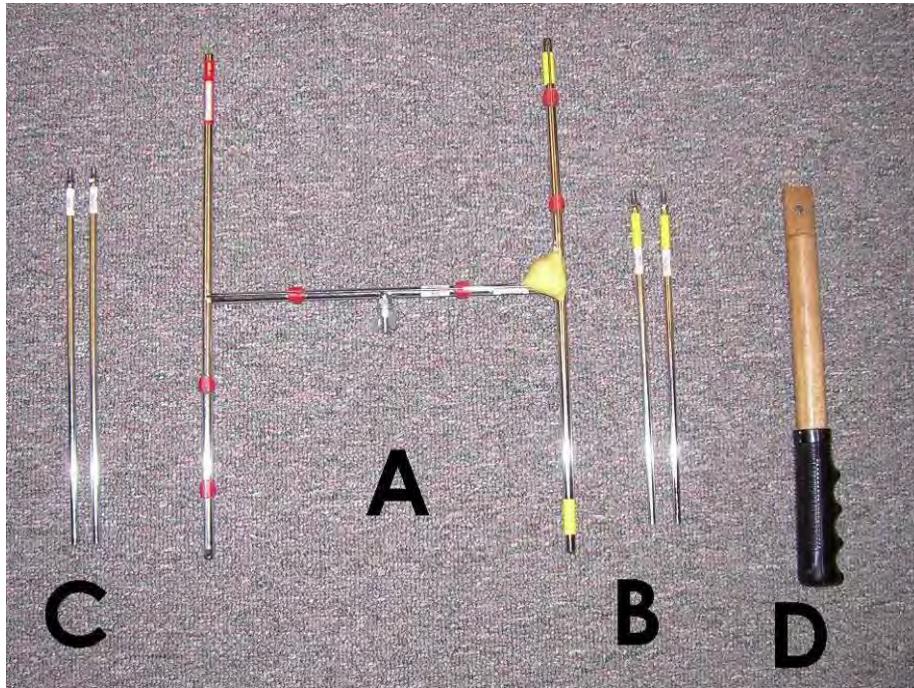

Figure 2. Telonics RA-2AK VHF 2 element Yagi antenna.
A directional antenna amplifies the signal from a transmitter and allows the observer to aim toward the source. Commonly, the “H” shaped 2- element Yagi antenna (Telonics RA-2AK) is used, but other multi-element Yagi antennas exist. Each antenna is specifically tuned to a 2K MHz range of frequencies (e.g. 164-166 for the antenna in Figure 2), but may also receive frequencies outside of this range, albeit with lower efficiency.
The two-element Yagi depicted in Figure 2 requires assembly, while other models may unfold into the correct operating configuration. For the H-style Yagi, each “kit” should include the main body (A), the arms (B and C) and the handle (D). The arms vary in length and must connect into the correct port on the antenna body. The yellow colored tape on the arms matches that on the body. When assembled, the shorter arms screw into the antenna's forward portion.